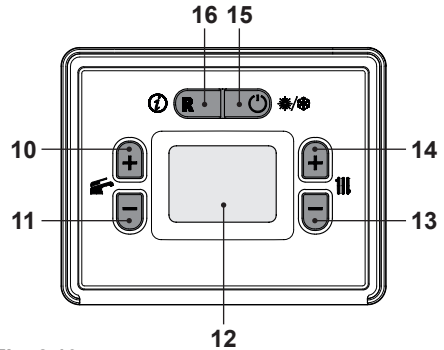

Fig. 8.19
- By using buttons 13 or 14 (Fig. 8.19) it is possible to modify the value of parameter A02:
- Press 10 or 11 (Fig. 8.19) to confirm the value entered and return to the list of parameters (Fig. 8.20).
- Press the 15 button (Fig. 8.19) to exit “programming mode”.